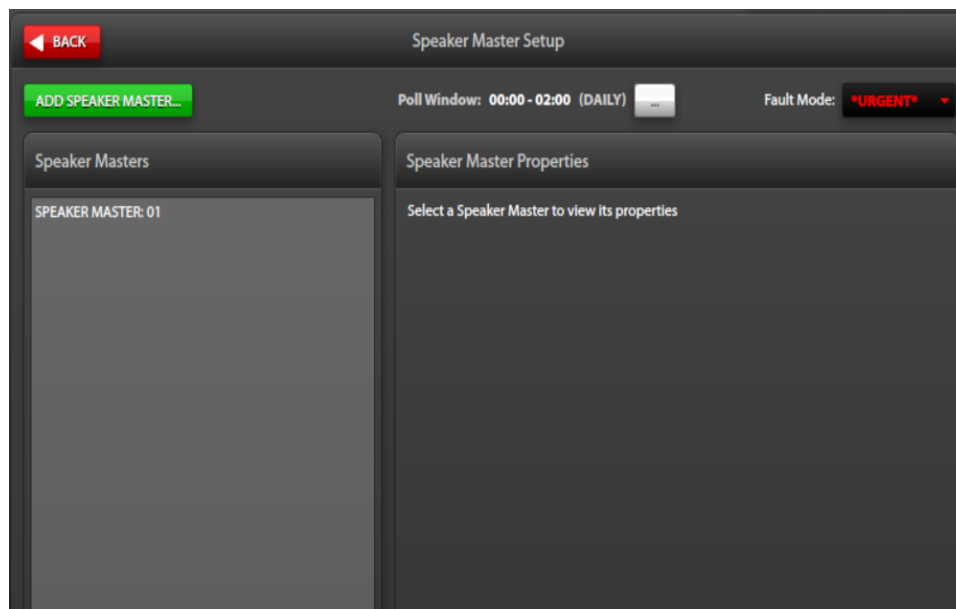

Figure 26. Speaker Mater Setup
1. Click the **SPEAKER MASTERS** button, under the **AMPLIFIERS** button, on the **SYSTEM PROPERTIES** screen, to open the **SPEAKER MASTER SETUP** screen (see Figure 26).